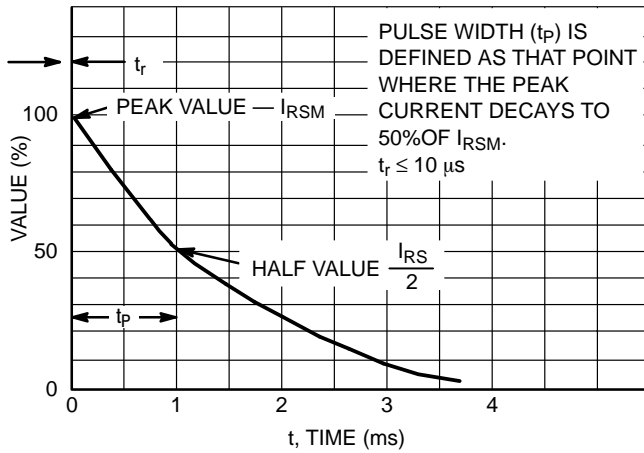

Figure 1.  $10 \times 1000 \mu s$  Pulse Waveform
- Peak Power: 24 W @ 1.0 ms (Unidirectional), per Figure 1
2. Non-repetitive pulse per Figure 1.